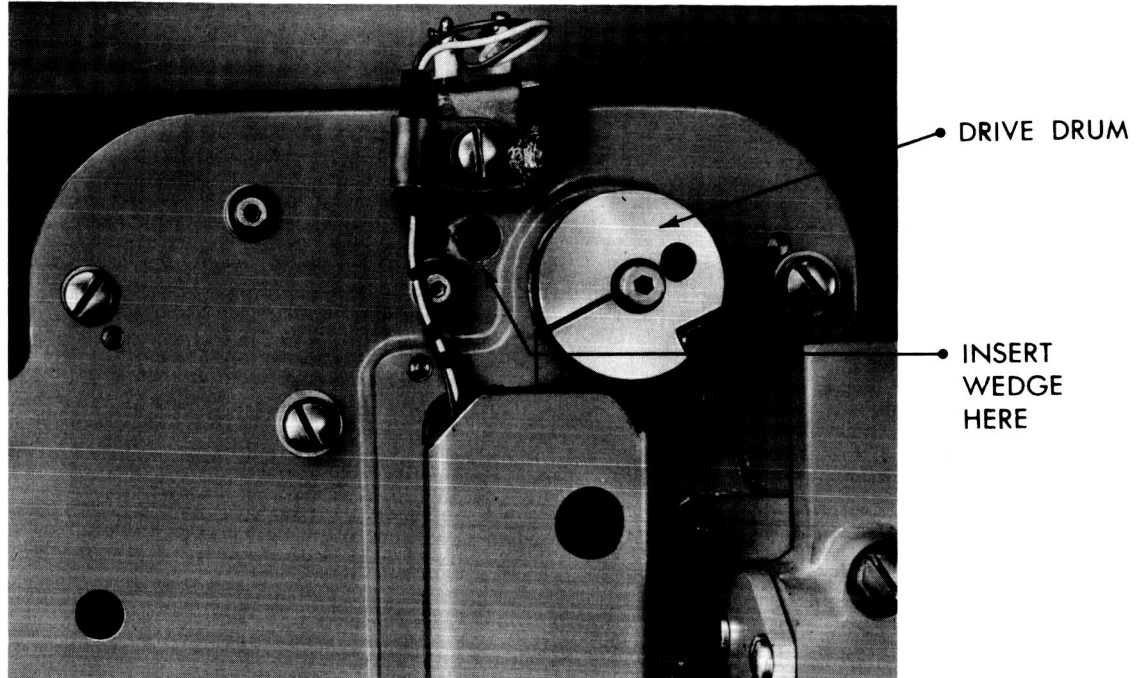

Figure 5-7. Locking Pen Carriage Drive Drum.
- h. Insert a plastic or other non-metallic wedge through the hole in the upper casting so that it locks the drive gears, thus maintaining cable tension. (See Figure 5-7).